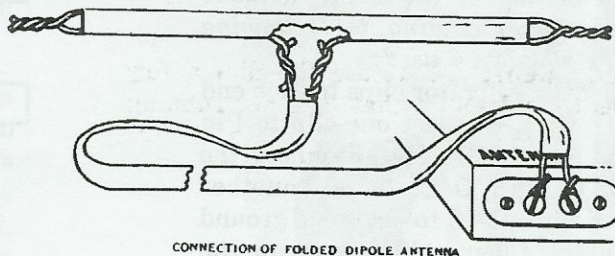

FIGURE 18
1. Connect the dipole antenna wire supplied to the antenna terminals on the rear of the tuner. Connect one of the leads to the G terminal and the other to the 300 ohm terminal. See fig. 18. After the antenna has been screwed on tightly, spread the antenna wire out on the table or tape it on the wall. Make sure that no part of the antenna wire touches the chassis of the tuner.